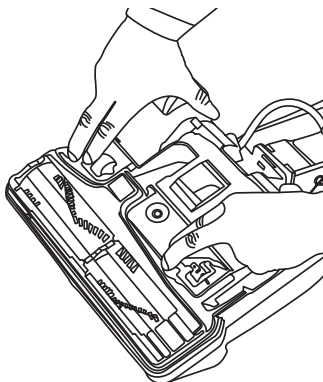

Fig. 11
2. Press the two holding tabs inward (Fig. 11) releasing the bottom plate. Remove the bottom plate.